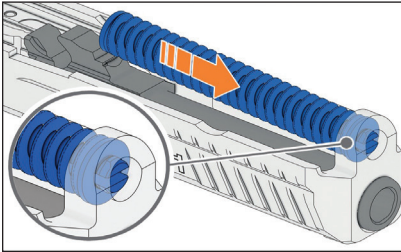

Figure 28 – Insert recoil spring
3. Insert recoil spring into slide (Fig. 28).